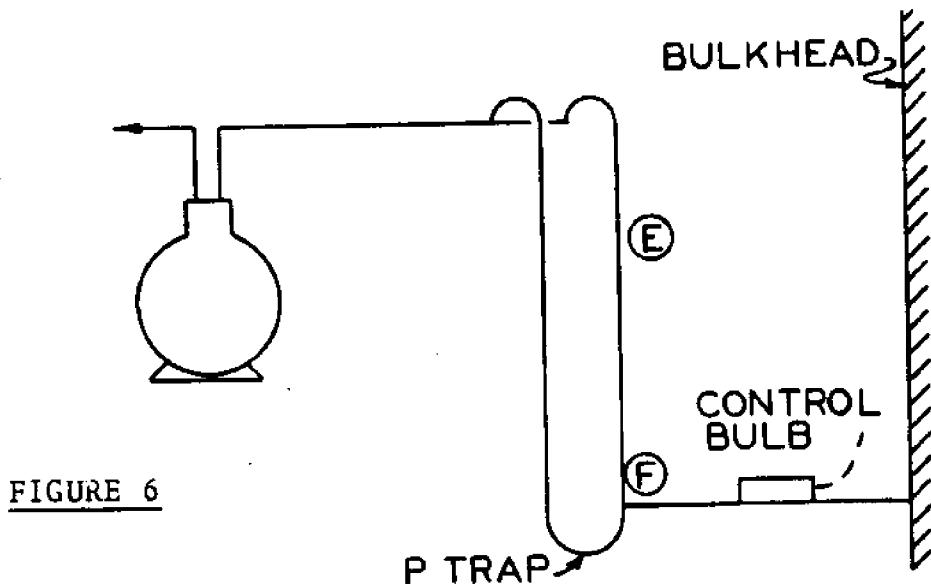

FIGURE 6
to carry oil upward (Figure 6). During periods of low refrigerant flow, the P-trap fills with oil, forcing refrigerant gas up the right-hand riser (E). Because all the gas goes up one riser, the velocity is higher and the remaining oil droplets are carried along. Later, when the refrigerant gas flow returns to a high volume, the pressure at point (F) increases to a value sufficient to blow the oil out of the P-trap and into the compressor, after which gas is returned along both risers at a high velocity. Note that both legs of the double suction riser have loops at the top where they join the main return line. This prevents oil from draining into one of the legs during a period of low flow. In general, one P-trap is needed for every 20 feet of rise. If the rise is only a few feet, a P-trap is not necessary.